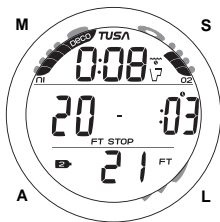

Fig. 72 - DECO STOP MAIN
**Deco Stop Main** information includes (Fig. 72) -